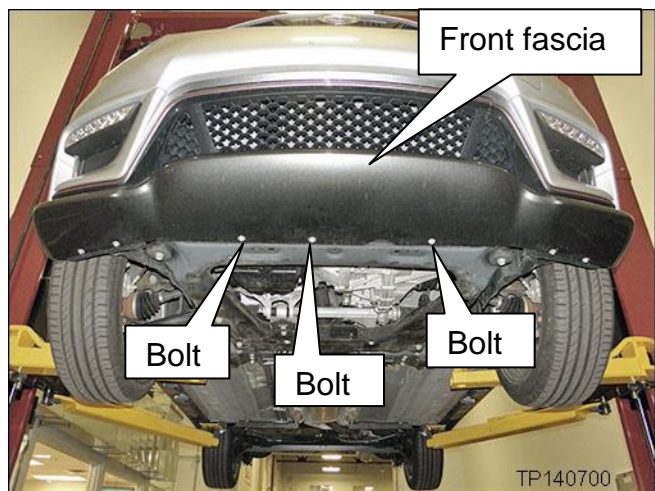

Figure 1
4. Remove 3 bolts, shown in Figure 1, from the lower front fascia.